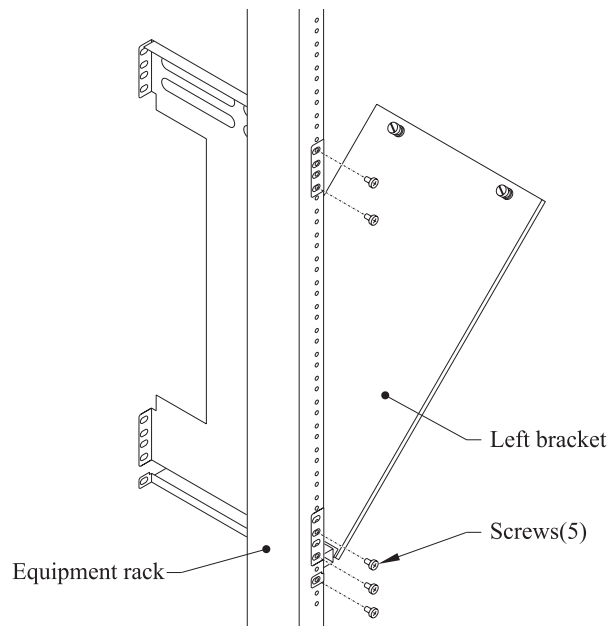

Figure 5. Fastening the Left Bracket to the Rack
1. It is recommended that you mark on the equipment rack exactly where you want the top of the two mounting brackets to go on the device in order to make sure that they are level with each other. Once you have determined the desired location, fasten the left bracket to the rack using your own screws or clips, as shown in Figure 5.